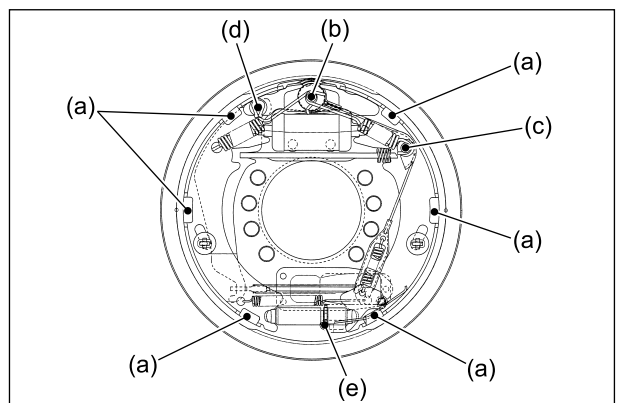

Fig. 3.243
- ④ Apply heat-resisting grease to the following areas (shown in Figure 3.243):